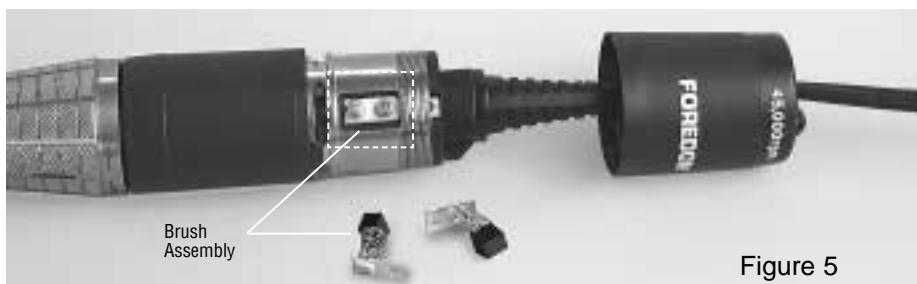

Figure 5
1. Unscrew protective cap from rear of motor (see Figure 5) by turning in counterclockwise direction while gripping handpiece body. (It has a standard right hand thread.)